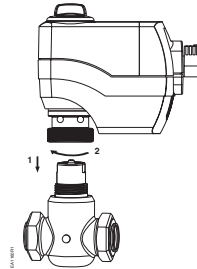

Figure 3. Coupling Actuator to Valve.
5. Loosen the actuator coupling on the valve (Figure 3, reverse #2).
10. Place the actuator on the valve and firmly hand-tighten (Figure 3).